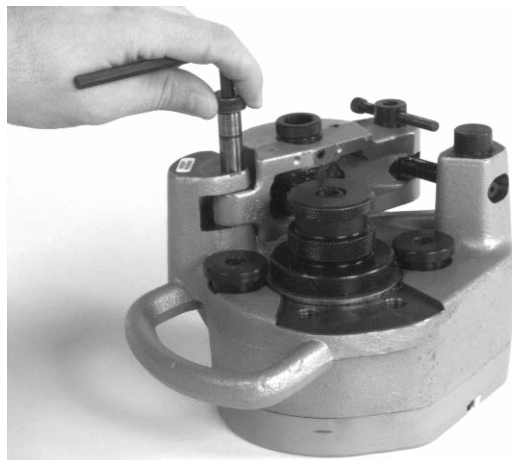

Figure 14 – Removing Shoulder Screw
2. Remove shoulder screw that retains the reaction arm to the main housing with $\frac{1}{4}$ " hex key (*Figure 14*).